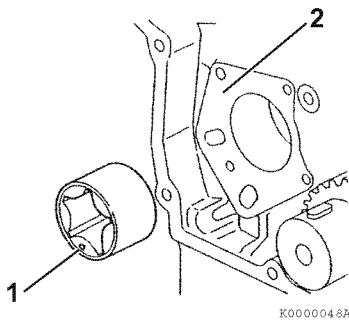

Figure 9-18
2. Reinstall the outer rotor in the gear case housing. The punch mark **(Figure 9-18, (1))** on the end of the outer rotor must face away from the gear case housing **(Figure 9-18, (2))**.